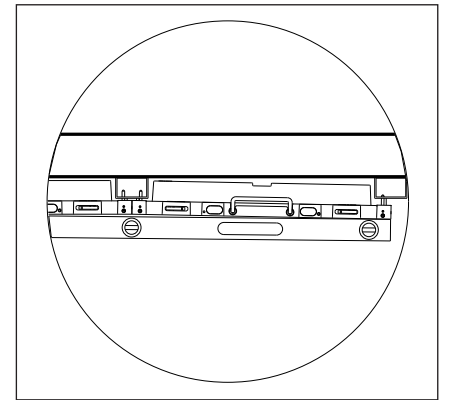

Figure 21: Verify Flatness
- Verify flatness by laying a 4' level across the face to ensure the combined face of both panels is straight and flat. Check both ends of the panel. Refer to **Figure 21**.